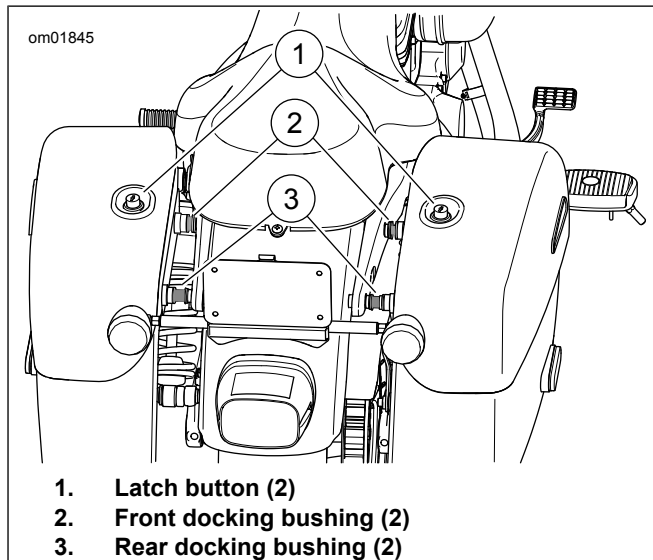

Figure 37. Saddlebags: XL1200T
1. See Figure 37. Unlock saddlebag with the key.
2. Press and release the latch button (1).
1. See Figure 37. Close the saddlebag lid.